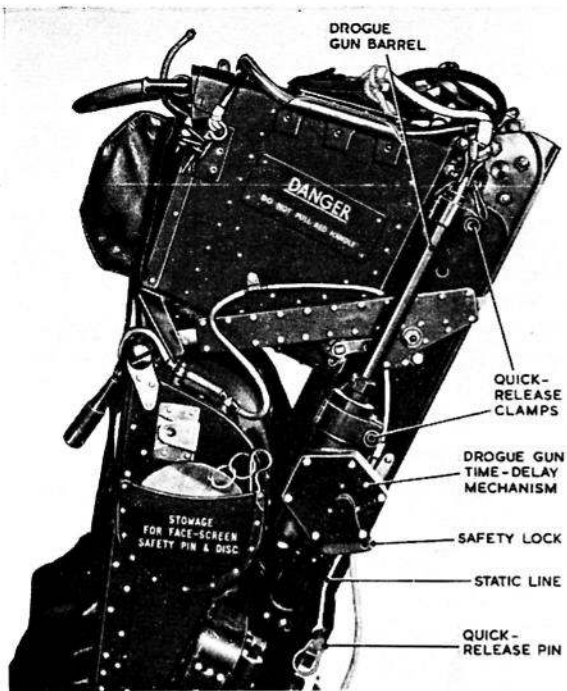

Fig. 4. Removing the drogue gun
- (2) Disconnect the drogue withdrawal line by pulling out the quick-release pin which attaches it to the drogue gun piston.
- (3) Operate the two quick-release clamps (fig. 4) and lift out the drogue gun.